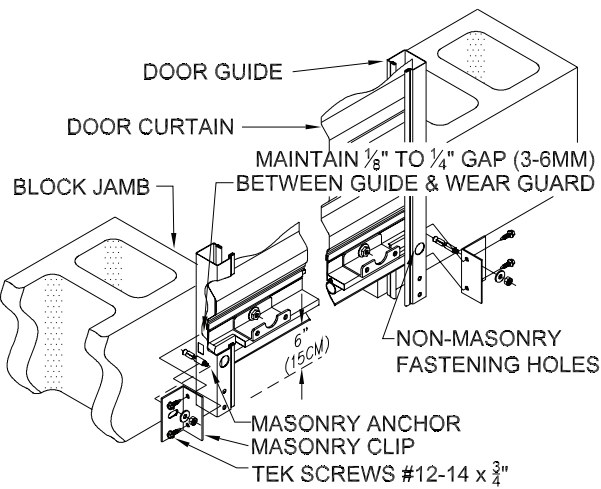

Figure 12
7.1 Position the guides against the jambs according to the clearance shown in Figure 10 (Figure 11 if windlock model). Loosely fasten the top of each guide to the door jamb. This will allow slight adjustment of the guides as the door installation is completed (guides on doors 14'-10" and taller will have a splice). **DO NOT** install the remaining fasteners until such time as the adjustment is true. Level one guide and loosely install a second fastener in the bottom hole. If mounting to masonry, install clips provided as shown in Figure 12. Align the clips with the holes along the length of the guide and flush with the back of the guide. (Anchors by others).